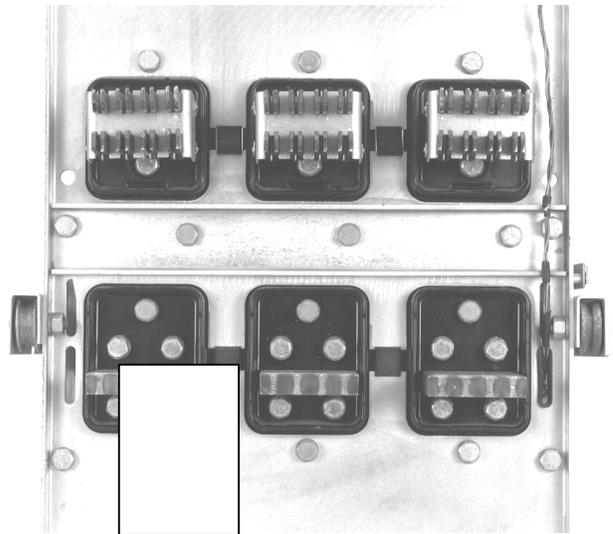

Figure 3. Trip unit mounting bolts to be removed from a DB-50.
2. On both a DB-25 and DB-50 breaker, remove and discard the two 1/2-13 bolts above each load terminal, as shown in Figures 3 and 4.
3. On a DB-50 breaker, remove and discard the two $\frac{1}{2}$ -13 bolts under each load terminal, as shown in Figure 3.